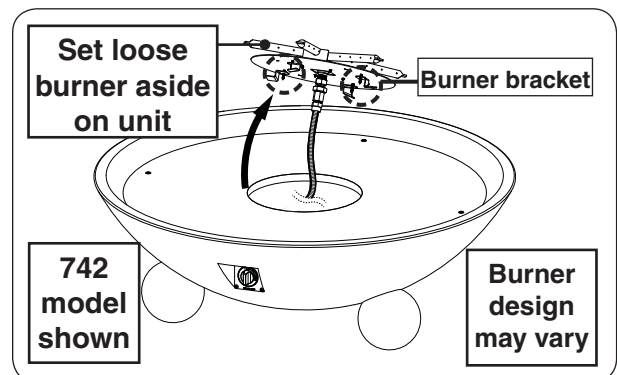

Fig. 26-3 Remove burner assy
1. Use a $\frac{5}{16}$ " nut driver to partially unfasten the four screws found on the burner assembly. Then **carefully** remove the burner and set it off to the side. See Fig. 26-3.